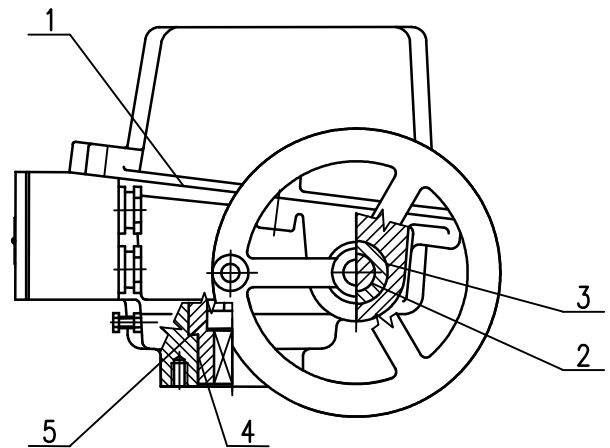

Fig. 10
**The closing surfaces are (Fig.10):**
- the connecting surface of the upper cover and the lower case (1),
- the cylinder part of the manual control mechanism flange and shaft (2),
- the cylinder part of the lower case and the cylinder part of the manual control mechanism flange (3),
- the cylinder part of the lower case and the cylinder part of the crown wheel flange (4).
- the cylinder part of the crown wheel and of the indication shaft (5)